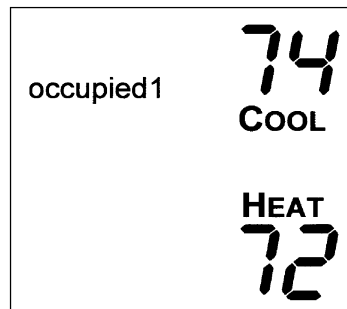

Fig. 4 — Setting Occupied 1 Set Points
1. Enter programming mode by pressing and holding the Mode and UP ARROW buttons. The Occupied 1 annunciator will appear on the thermostat display. See Fig. 4. Use the UP ARROW and DOWN ARROW buttons to set the maximum number of Occupied periods available. The thermostat can be set to 1, 2, or 3. After the number of Occupied periods has been selected, press the Mode button.
2. The cooling set point for Occupied 1 will be displayed. Use the UP ARROW and DOWN ARROW buttons to raise or lower the cooling set point until the desired temperature is shown. The range of acceptable values is 35 to 99 F (1 to 37 C). Press the Mode button to continue. See Fig. 4.
3. The heating set point for Occupied 1 will be displayed. Use the UP ARROW and DOWN ARROW buttons to raise or lower the heating set point until the desired temperature is shown. The range of acceptable values is 35 to 99 F (1 to 37 C). Press the Mode button to continue. See Fig. 4.